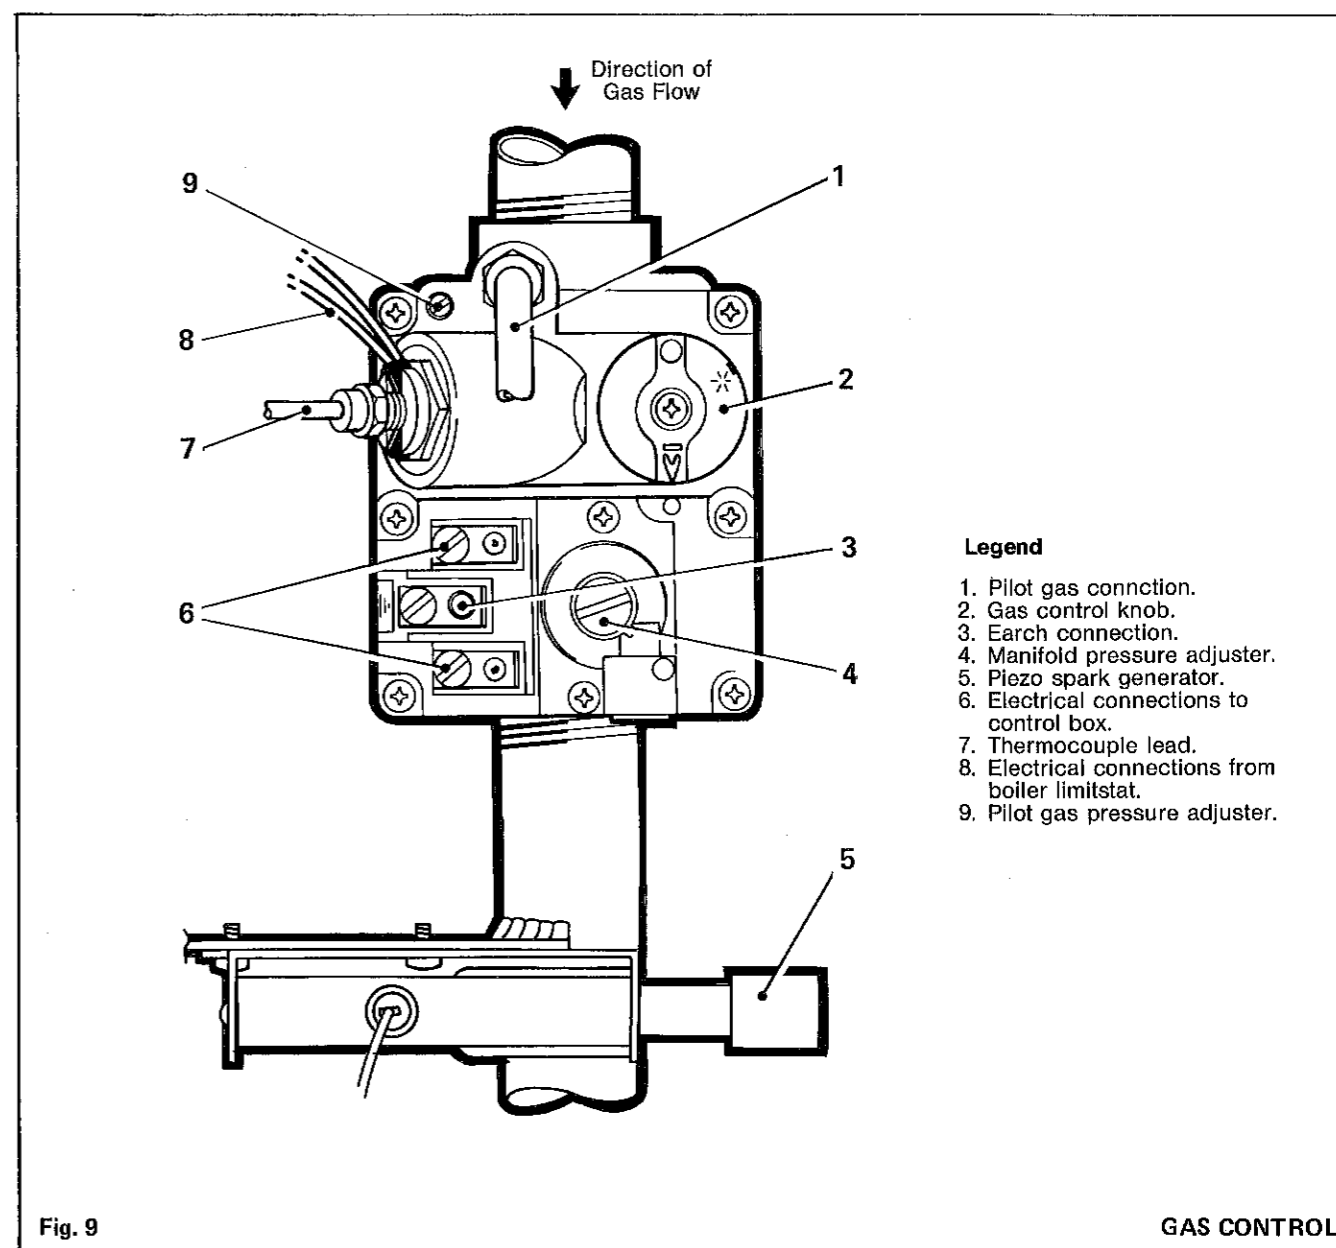

Fig. 9
The manifold gas pressure must now be checked and adjusted as necessary. Commence the adjustment procedure with the system cold, on full load and with all temperature controls set at maximum. This will ensure, as far as possible that thermostatic shutdown does not interfere whilst the pressure is being checked and adjusted. Remove the screw in the manifold pressure test nipple (H) and securely connect a suitable gas pressure gauge. Light the boiler and allow it to operate for above fifteen minutes to stabilise the burners. Check the pressure and adjust it to the figure shown in Table 2 for the appropriate boiler size. The location on the gas control of the manifold pressure adjuster is shown in Fig. 9. Remove the dust cover over the adjuster and, using a small screwdriver, turn the screw beneath clockwise to increase or anti-clockwise to decrease pressure. The pressures quoted in Table 2 are given to facilitate speedy approximate adjustment of the gas rate. After setting to the pressure indicated allow the boiler to operate for about fifteen minutes to stabilise and then check the gas rate by reference to a watch and the gas meter. (Before doing so make certain that any other gas appliances connected to the same meter are turned off). The gas rate for each size of boiler is given in Table 1. A deviation of $\pm 2\%$ of the quoted figure in the observed gas rate is of no practical importance but any greater variation must be adjusted by increasing or decreasing pressure as required by small steps until the correct rate is obtained. Replace the dust cover when finished, disconnect the gas pressure gauge and replace the blanking-off screw in the manifold pressure test nipple.
Fig. 9. Turn the adjustment screw beneath the dust cover clockwise to decrease or anti-clockwise to increase the flame length. Replace the dust cover and fibre washer.